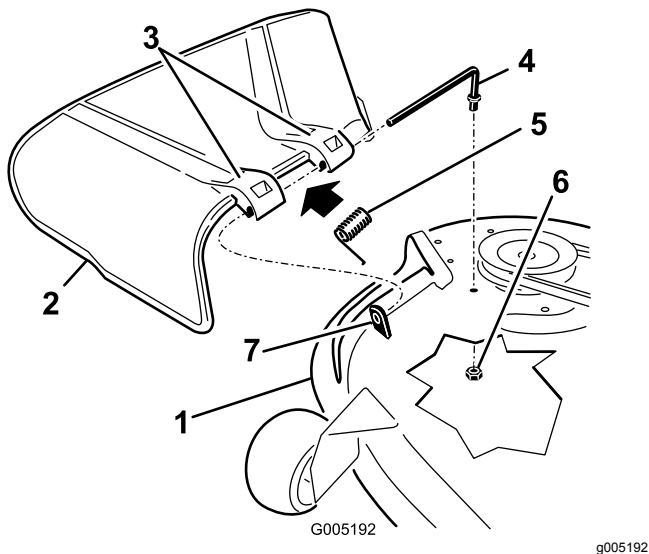

Figure 61
1. Locate items shown in Figure 61.
Slide rod through second grass deflector bracket (Figure 61).
7. Insert rod at front of grass deflector into short stand-off on deck. Secure rear end of rod into the mower with a nut (3/8 inch) (Figure 61).
2. Remove the nut (3/8 inch) from the rod under the mower (Figure 61).
3. Slide the rod out of the short stand-off, spring, and grass deflector (Figure 61). Remove the damaged or worn grass deflector.
4. Replace the grass deflector (Figure 61).